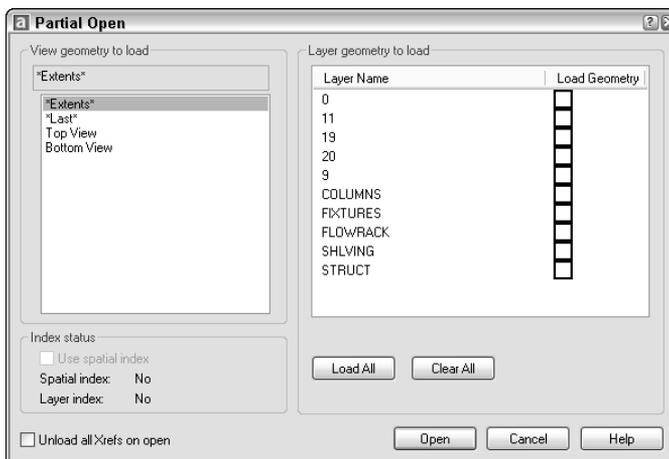

Figure 8-11: Use the Partial Open dialog box to open only the part of a drawing contained in a named view.
2. Choose a drawing and then click the Open button's drop-down box. Choose Partial Open to open the Partial Open dialog box, shown in Figure 8-11.